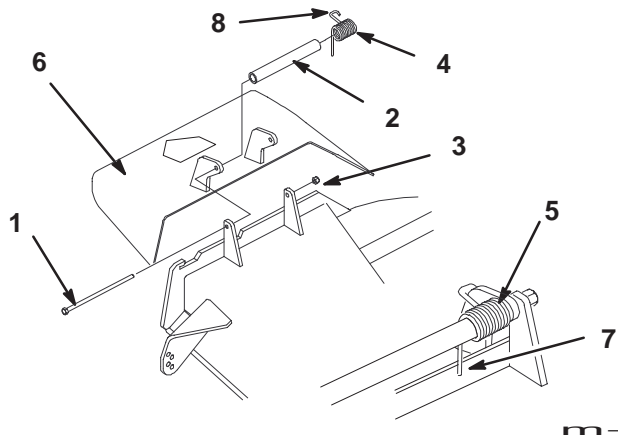

Figure 67
1. Remove the locknut, bolt, spring and spacer holding the deflector to the pivot brackets (Fig.67). Remove damaged or worn grass deflector.
Note: Make sure the straight end of spring is installed behind deck edge before installing the bolt as shown in figure 67.
3. Install bolt and nut. Place hook end of spring around grass deflector (Fig.67).